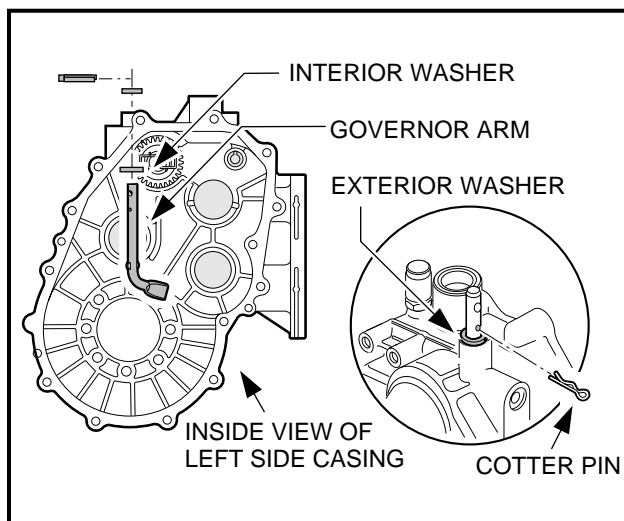

Figure 16-70 Pivot Arm
5. Position the interior washer on the pivot arm, then install the pivot arm and washer into the left (driver side) case as shown (**Figure 16-70, Page 16-31**). Install the exterior washer and cotter pin on the pivot arm outside the case as shown (**Figure 16-70, Page 16-31**). Bend the legs of the cotter pin.